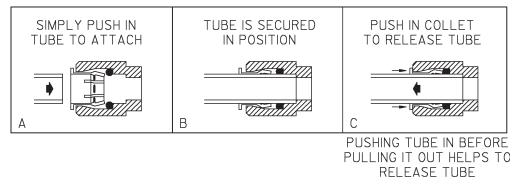

FIG. 6
**Actuation of Quick Connect Water Fittings:** Cooler is provided with lead-free connectors which utilize an o-ring water seal. To remove tubing from the fitting, relieve water pressure, push in on the gray collar while pulling on the tubing (see figure 6).